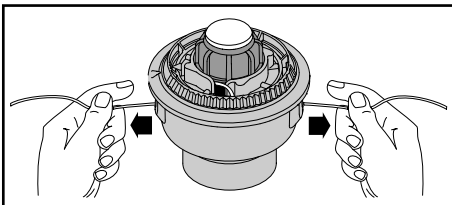

Fig. 18
- If winding the line becomes difficult or the line jams, pull the ends of the line away from the spool and continue winding the inner reel counterclockwise (Fig. 18).
Pull the ends of the line firmly away from the spool to release the inner reel (Fig. 18). If this procedure does not release the inner reel, follow the "Cleaning the SpeedSpool" instructions below.